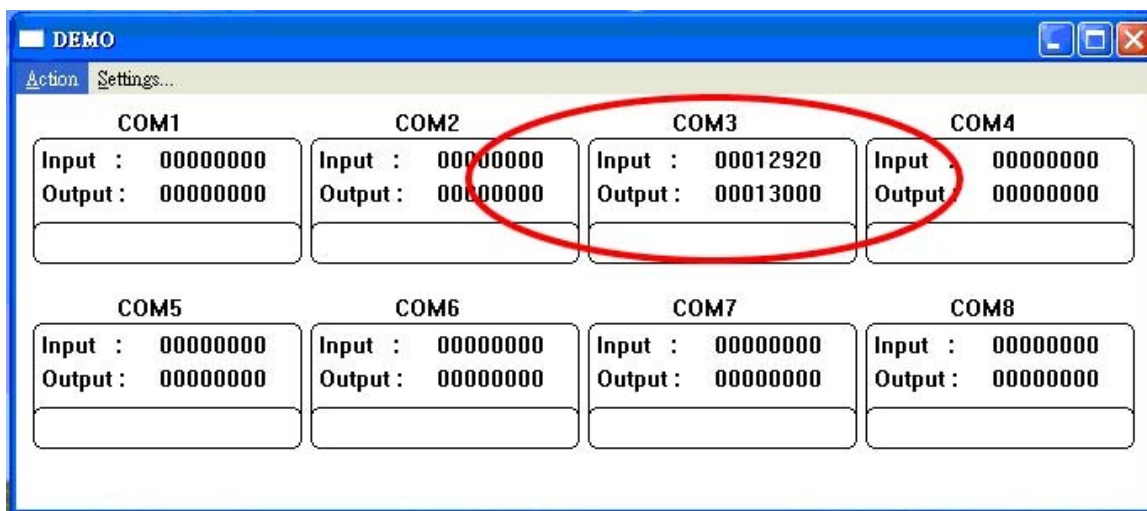

Fig.8
**Step4.** Click the “OK” the utility will show the input and output status of RS232 (See the Figure 8).